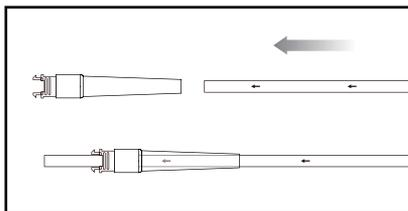

Figure 1. Strain Relief and end of tubing alignment
2. The Strain Relief is threaded over the LAP-BAND AP® System tubing with the locking mechanism end of the Strain Relief pointing toward the end of the tubing; allow 2 cm of tubing to extend beyond the Strain Relief (**Figure 1**).